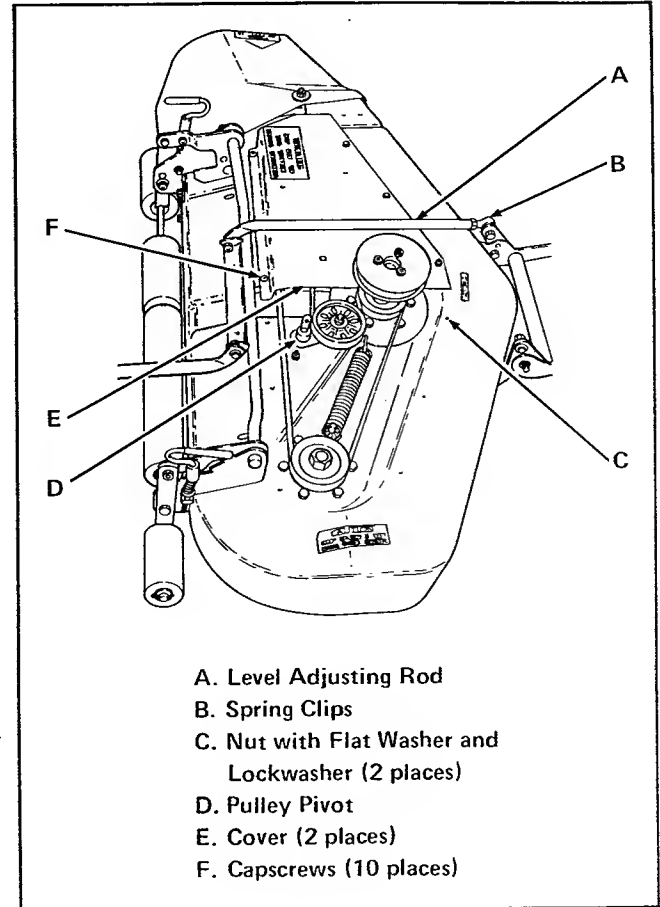

Figure 20. V-Belt Removal
1. Remove the spring clips (item B, figure 20) and pull the level adjusting rods (item A) or bail assembly back to provide access for cover removal.